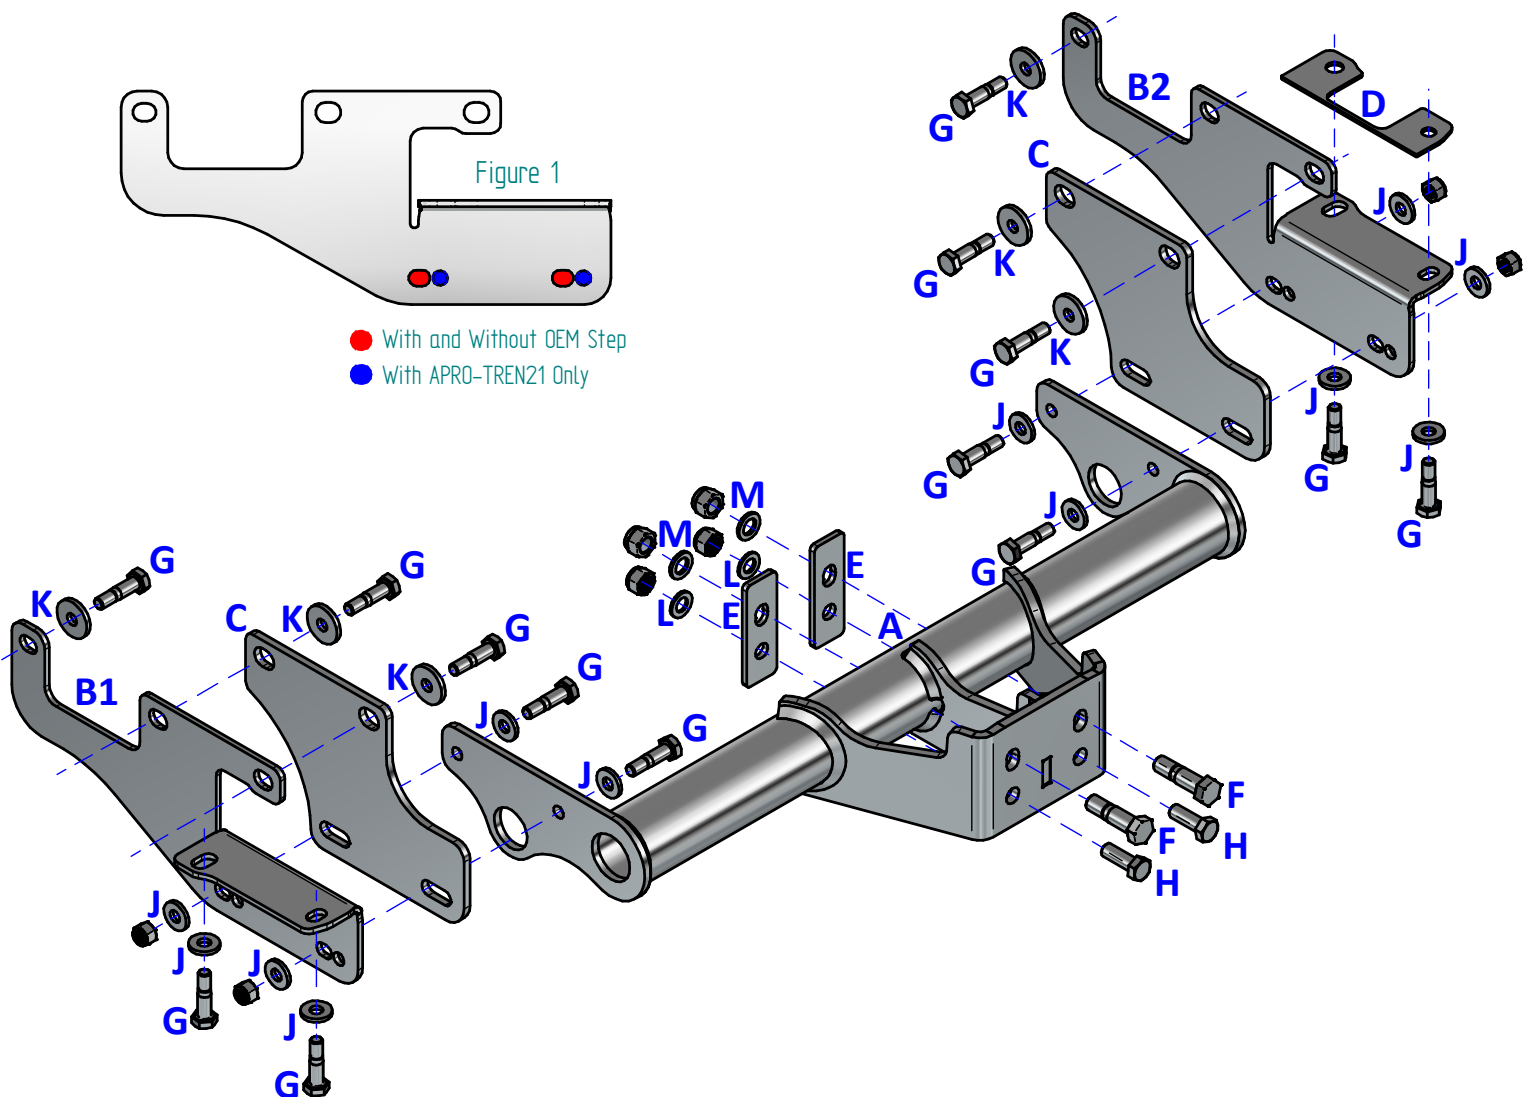

Figure 2
1. Remove the four horizontal fixings securing the step's framework to the drop-down brackets as shown in **Figure 2** and discard.